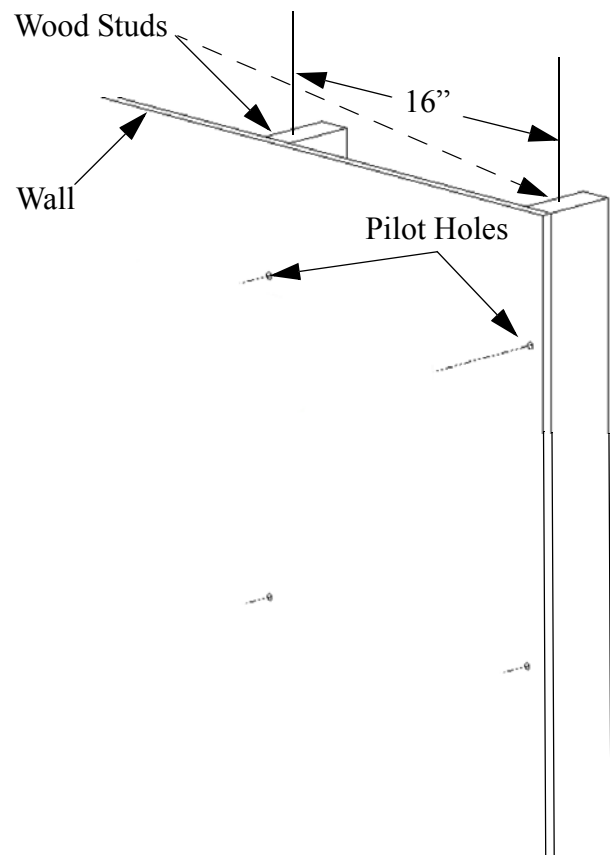

Figure 1. Two Wood Studs 16" Apart On Center
6. Using a 7/32" drill bit, drill two pilot holes where the mounting holes were marked for anchoring the top bracket on the MSP-LD. See Figure 1.